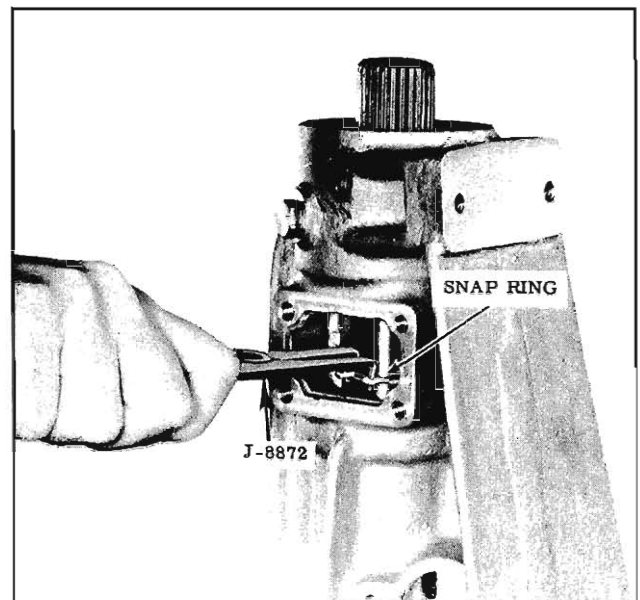

Fig. 6-29 Unseating Snap Ring
4. Reaching through access hole in rear bearing retainer, cut and remove "O" ring from output shaft, unseat the rear output shaft snap ring using Tool J-8872 and move snap ring upward over output shaft "O" ring groove. (Fig. 6-29)